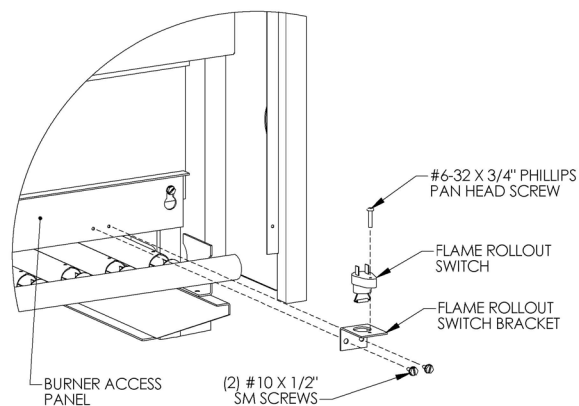

Figure 7.3
3. Mount the flame rollout switch as shown in Figure 7.3.